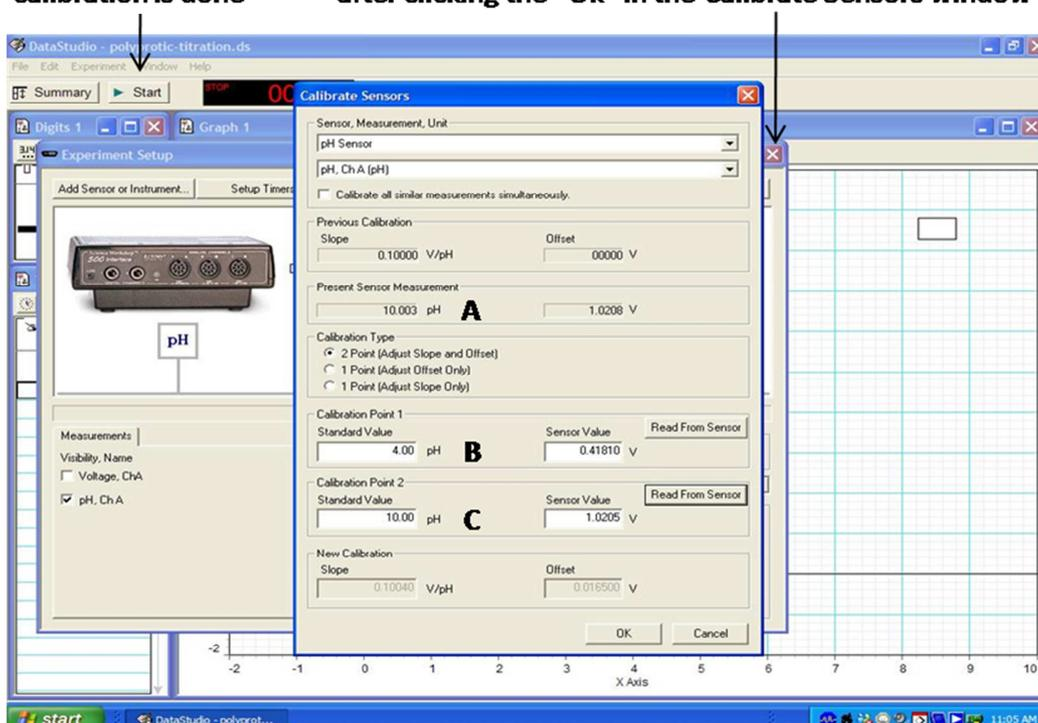

Figure 1: Calibration screen
- Minimize Firefox and double click the Outreach-Polyprotic.ds file. This will open up DataStudio. Click on the Calibrate Sensors button to open the screen shown in Figure 1. The instructions for the software below start on this screen.
Calibration of pH electrode (see Figure 1)
4. The computer software should already be opened to the calibration screen shown in Figure 1 (see above and ask for assistance if it is not). The pH that the electrode is reading is displayed in box A. Enter "4.00" in box B and click on "Read from sensor". Make sure the value that appears in box A is approximately 4.0 and stable (not increasing or decreasing). This value will fluctuate, but not more than ± 0.1 pH units. If the value in box A is not close to 4.0 and stable, then click the "Read from sensor" button until it is.
6. Repeat the sequence in step 4 of this calibration procedure for the electrode in the pH 10 standard buffer except enter "10.00" in box C (see Figure 1) and click on the adjacent "Read from sensor" button". When this is complete click on the "Ok" in the Calibrate Sensors window, and close the Experiment Setup window by clicking the "X" in the upper right corner (not the "X" in the upper right corner of the application window). The sizes of the Digits, Table and Graph windows can be adjusted by clicking and dragging the bottom right corner of each window, and moved by clicking and dragging the blue banner at the top of each window.